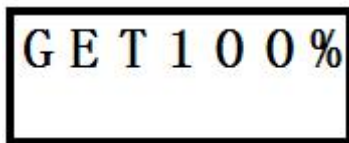

Fig.34
- ① Set the pipeline differential pressure to 20 kPa to the pipeline; the display indicates +20 kPa.
- ② Launch the menu, navigate through the menu, select the "GET100%" menu, and the display appears as shown in Figure 34;